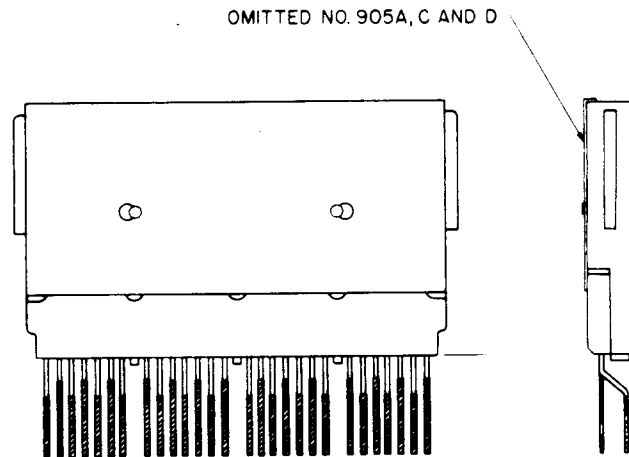

Fig. 5—905-Type Connectors
2.04 905A, B, C, and D: The 905A, B, C, and D connectors (Fig. 5) consist of a block of insulating material containing 28 contact springs. The terminals are arranged for mechanically wrapped connections.